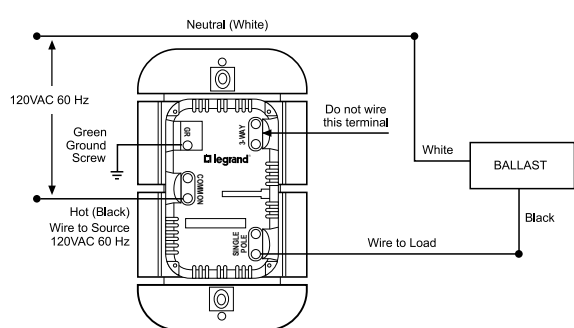
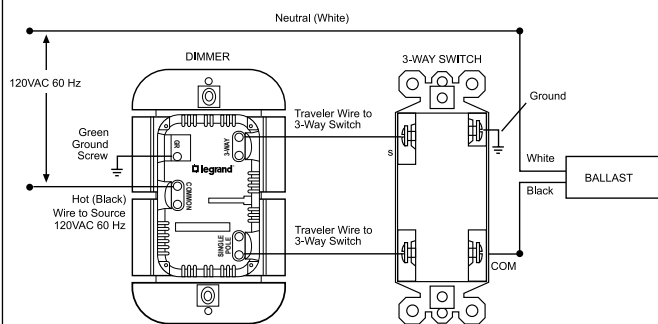

Figure 1 – Single Pole Installation
Figure 2 – 3 Way Installation
5. Connect dimmer as shown in the installation diagram using #12 or #14 AWG stranded or solid copper conductors. Strip wire using gauge on back of device (Figure 1 or Figure 2). Torque terminal screws to 14-16 inch lbs.